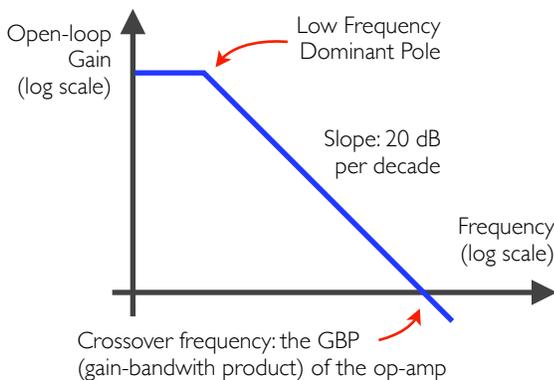

Figure 13: Frequency Response
3. Can you measure and reproduce the curve in figure 13? This is easiest with a variable-frequency signal generator and an oscilloscope. At what frequency is the "knee" of the plot? What happens at the crossover frequency? Compare the results for the XL741 to that with an integrated circuit '741.